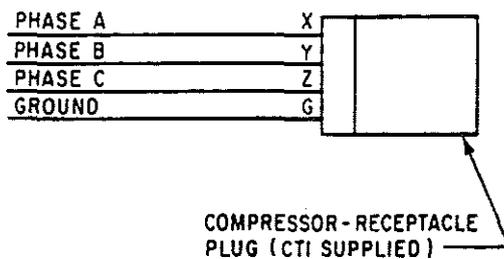

Figure 3.5 Wiring diagram for compressor-receptacle plug
e. Insert all conductors into their proper wire entrance holes on receptacle plug face. See Figure 3.5. Check that there are no bare conductors exposed. Tighten terminal screws to 9-12 in.-lbs torque.
3. Assemble the receptacle plug by sliding the cover over the wire assembly noting key (7). Align the key on the cover to the keyway on the plug face and tighten the two assembly screws (1) to secure the cover and plug face. Alternately tighten the clamp screws (4) to 8-10 in.-lbs torque.
4. If the compressor does not start the most likely cause is that the main power input phasing is incorrect. To correct the phasing, interchange any two of the three phase wires at the compressor input power receptacle plug. See Figure 3.5, page 3-3.